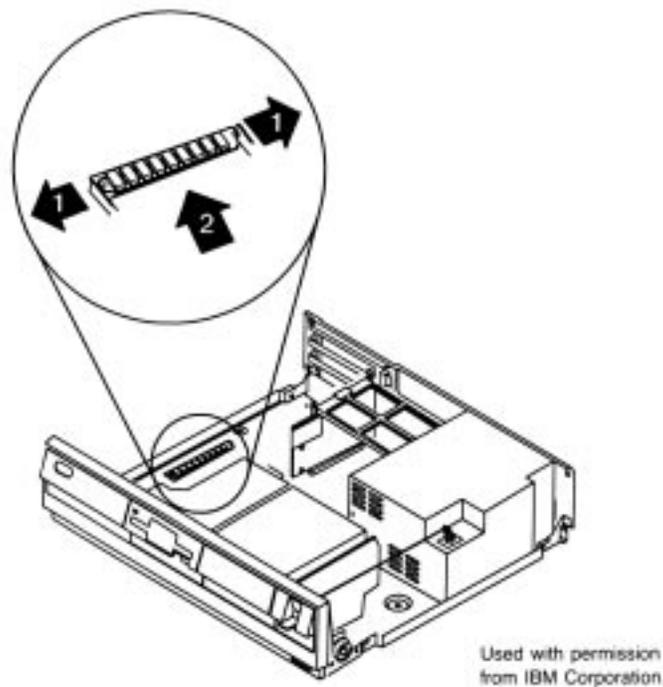

Fig. 3.25
2. Rotate or pull the SIMM up and out of the socket (see fig. 3.25).